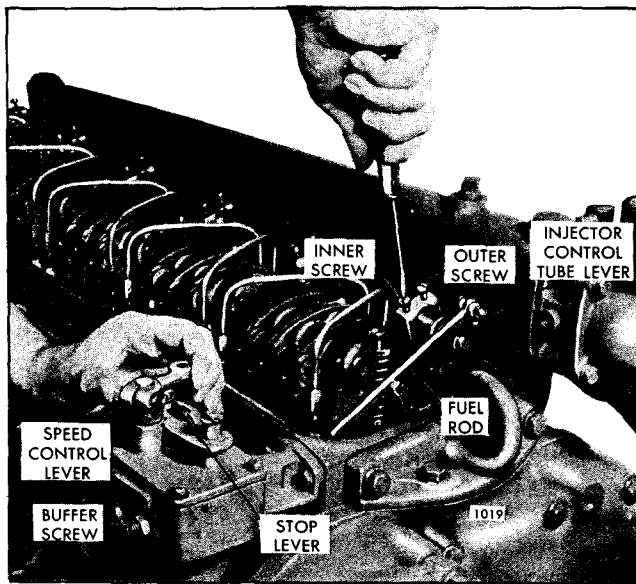

Fig. 3 - Positioning No. 1 Injector Rack Control Lever (Two Screw Assembly)
2. Back out the buffer screw or the fast idle cylinder until it extends approximately 5/8" from the lock nut (Fig. 3).
2. Back out the buffer screw until it extends approximately $5/8$ " from the lock nut (Fig. 3).
5. Remove the fuel rod from the differential lever and the injector control tube lever (Fig. 3).
Adjust the No. 1 injector rack control lever (Fig. 3)